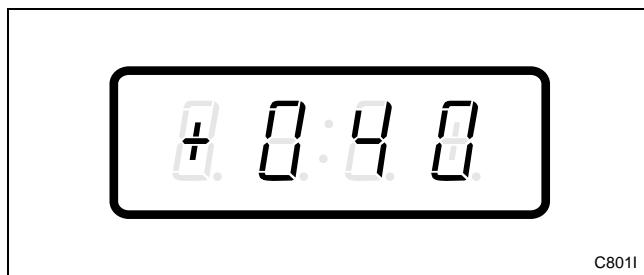

Figure 121
3. Press the DELICATES (+) or the COLD (-) keypad to scroll through the programmable options until “+040” appears in the VFD. Refer to *Figure 121*.